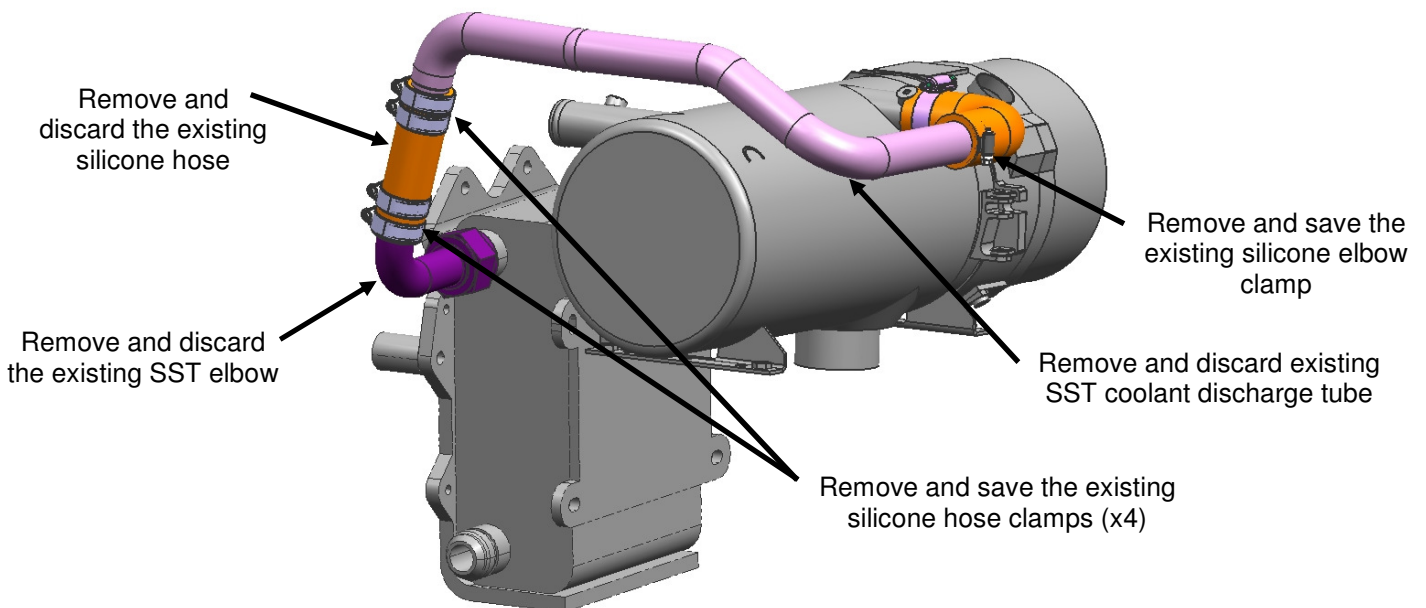

Figure 3: Cabin Heat Coolant Discharge Tube Removal
12. Remove and save the existing hose clamp from the silicone elbow on the auxiliary heater to the SST cabin loop discharge tube, see Figure 3.
13. Remove and save the existing hose clamps (x4) from the silicone elbow connecting the heat exchanger 90° SST elbow to the SST tube to the auxiliary heater elbow, see Figure 3.
14. Remove and discard the existing silicone hose, 90° SST elbow at the heat exchanger and the SST cabin loop discharge coolant tube, see Figure 3.